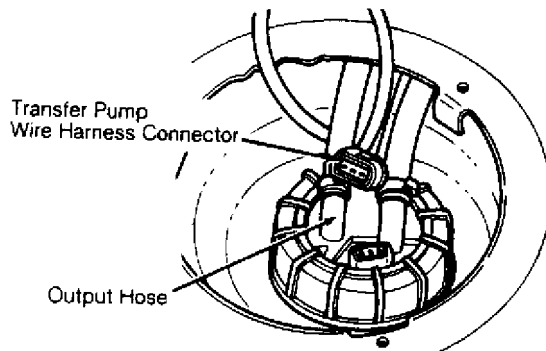

Fig. 3: Checking Transfer Pump Fuel Volume (Fox & Jetta GLi)
2) Activate fuel pumps by removing fuel pump relay and attaching jumper wire between terminals No. 30 battery voltage and No. 87 output to fuel pumps. Terminal identification is molded on fuse/relay panel. If pump does not operate, remove transfer pump wiring harness connector. See Fig. 3.